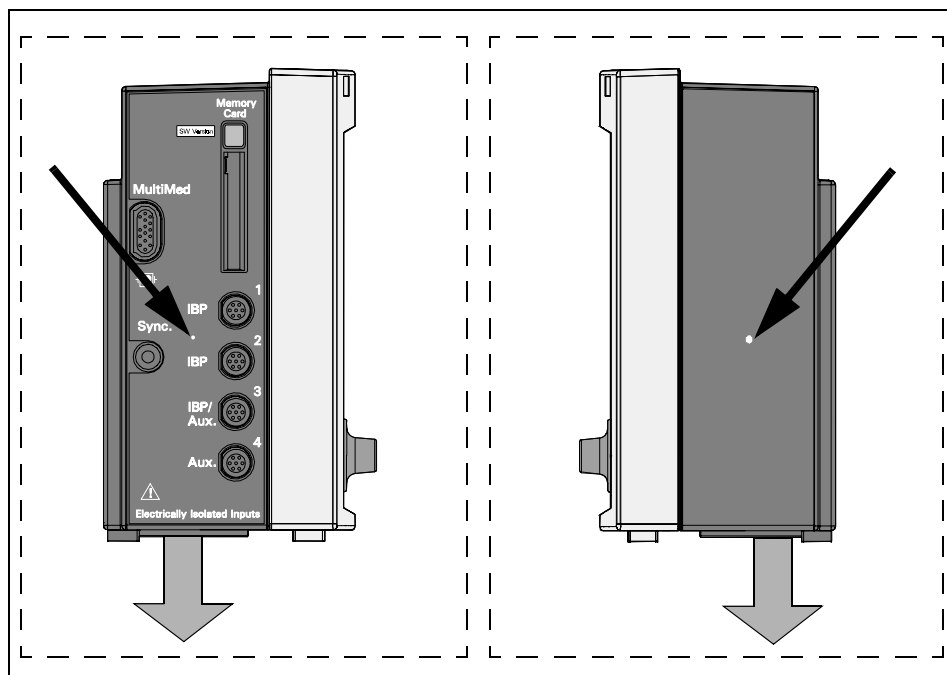

Fig. 3-4 Removing Left and Right Side-Panels
- 3) Press firmly on dot on lower center of panel between IBP1 and IBP 2 (see Fig. 3-4), to release latch.
- 1) Press firmly on dot on lower center of panel (see Fig. 3-4).